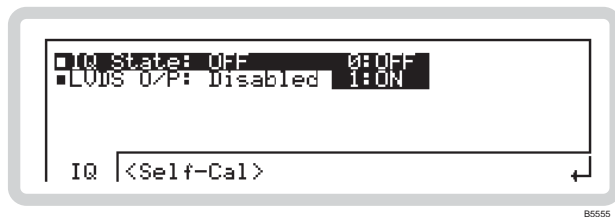

Fig. 3-39 Internal IQ, real-time baseband
- 2 Press **SIG GEN** to show the main screen, and touch the **IQ** soft box to select the function. Touch **IQ** and press **↵** to view the internal IQ modulation menu (Fig. 3-39).